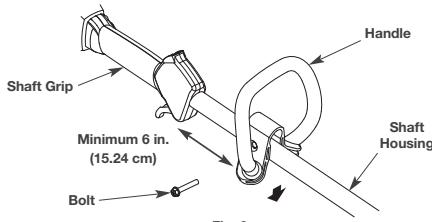

Fig. 2
- Push the handle down onto the shaft housing (Fig. 2). The bolt hole in the handle should be to the right.
- Insert the bolt into the bolt hole and push it through (Fig. 2). Tighten the bolt with a 3/8" socket, but do not tighten the bolt completely.
- While holding the unit in the operating position (Fig. 7), move the handle to the location that provides the best grip. Place it a minimum of 6 inches (15.24 cm) from the end of the shaft grip (Fig. 2).
- Loosen the bolt with a 3/8" socket (Fig. 2).
- While holding the unit in the operating position (Fig. 9), move the handle to the location that provides the best grip. Place it a minimum of 6 inches (15.24 cm) from the end of the shaft grip (Fig. 2).